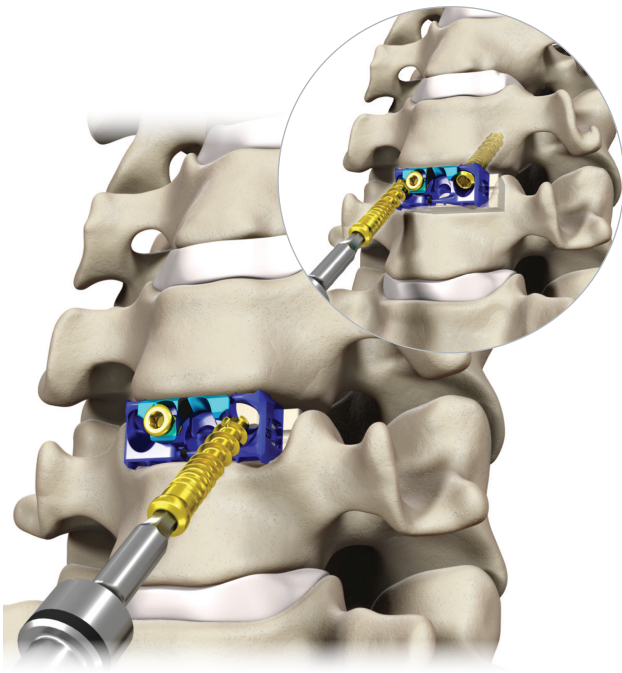

Figure 17
- Assemble the 2.0 mm hex driver and modular spin cap handle. Load the desired screw onto the driver and insert the screw through the first lateral screw hole, advancing the screw until the screw head contacts the plate to stabilize the implant provisionally. Ensure the driver is on axis to the prepared screw trajectory during screw insertion. Repeat on the contralateral side (Figure 17).